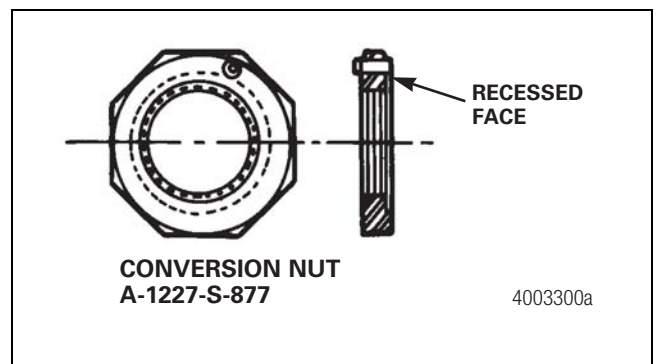

Figure 11.5
3. On TN, TQ, RN, RQ and TKN axle models where the innermost component is a nut, replace with part number A-1227-S-877. Be sure the recess in the nut faces toward the wheel-end equipment. Figure 11.5.